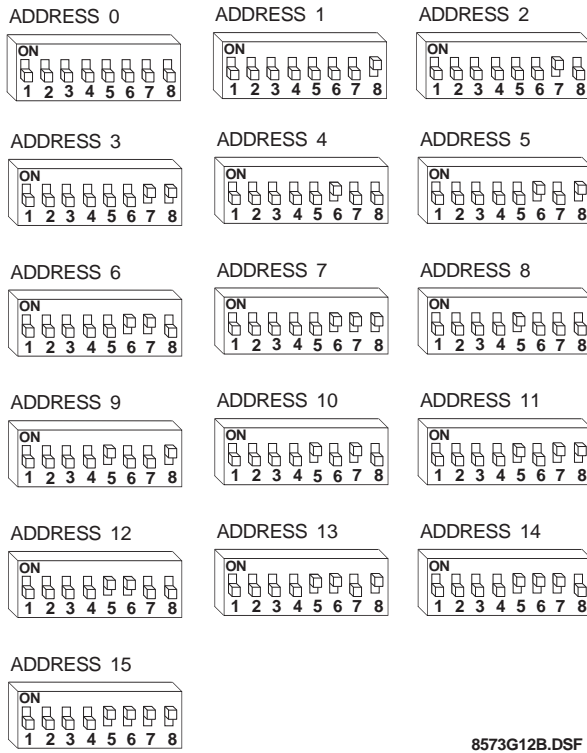

Figure 26. 8-Position DIP Switch Device Address Settings
- Hardwire Output modules have eight DIP switches, of which only 6 through 8 are used to set the address (see Figure 26).
- Hardwire Input Modules and Phone Interface/Voice modules have eight DIP switches, of which only 5 thru 8 are used to set the address (see Figure 26).
Set the unit number DIP switches to the desired unit number as shown in Figures 26, 27, and 28. Remember, each bus device must have a different unit number setting to work correctly.